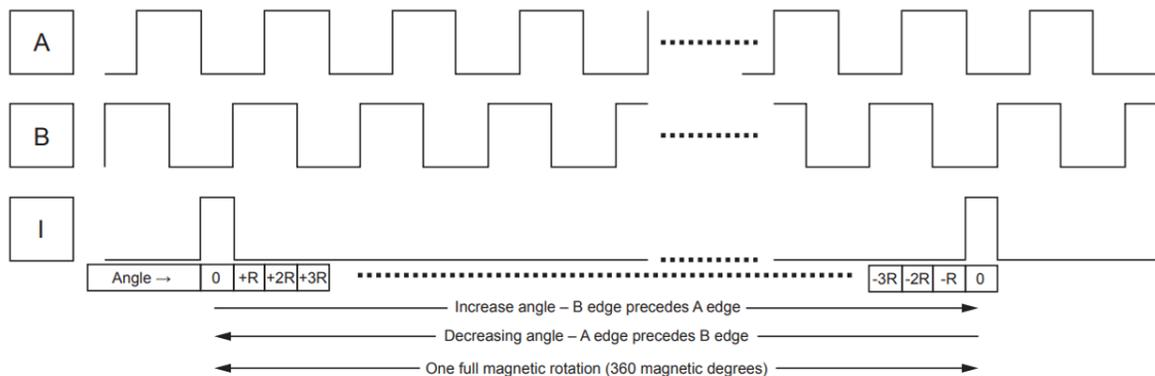

Figure 14: ABI Output Protocol
The A1339 offers an incremental output mode in the form of quadrature A/B and index outputs to emulate an optical or mechanical encoder. The A and B signals toggle with a 50% duty cycle (relative to angular distance, not necessarily time) at a frequency of  $2N$  cycles per magnetic revolution, giving a cycle resolution of  $(360 / 2N)$  degrees per cycle. B is offset from A by  $1/4$  of the cycle period. The “I” signal is an index pulse that occurs once per revolution to mark the zero (0) angle position. One revolution is shown in Figure 14.